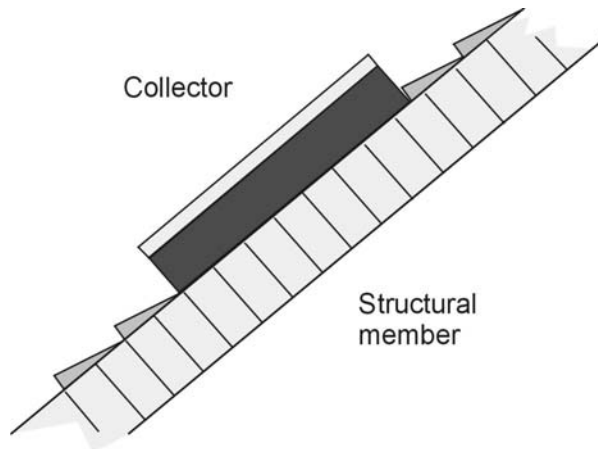

Figure 7 Direct- or flush-mounted collector
3. **Direct Mounting.** Collectors can be mounted directly on the roof surface (Figure 7). Generally, they are placed on a waterproof membrane covering the roof sheathing. Then the finished roof surface, the collector's structural attachments, and waterproof flashing are built up around the collector. A weatherproof seal must be maintained between the collector and the roof to avoid leaks, mildew and rotting.